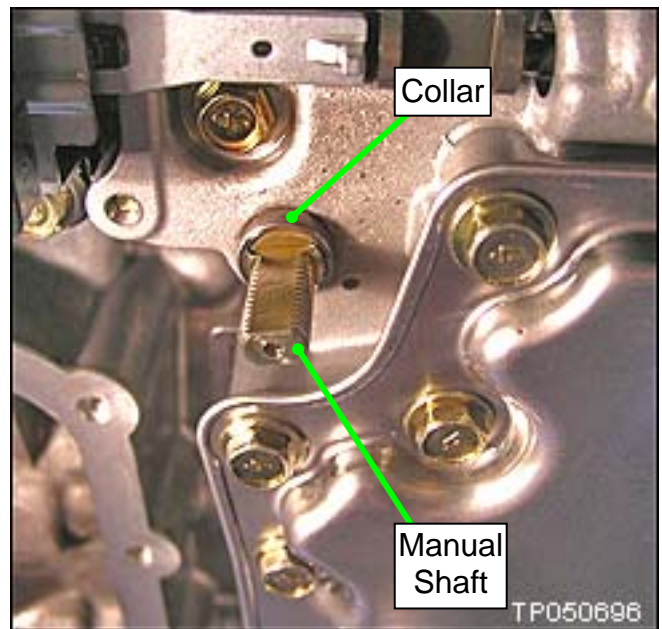

Figure 3
10. Remove the collar from the manual shaft (see Figure 3).
20. Reinstall the collar on the manual shaft (see page 5, step 10 and Figure 3).